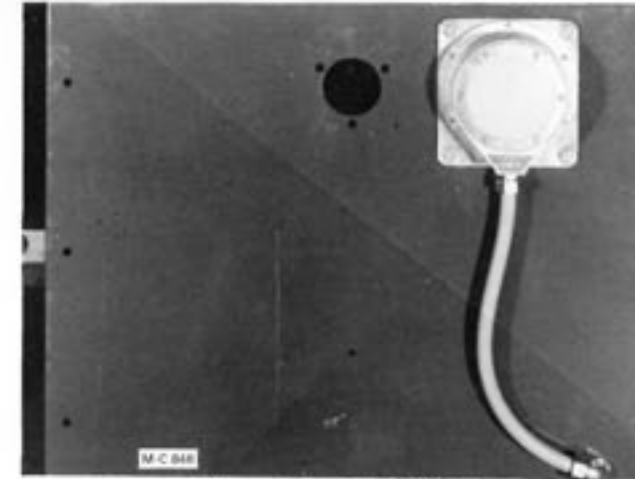
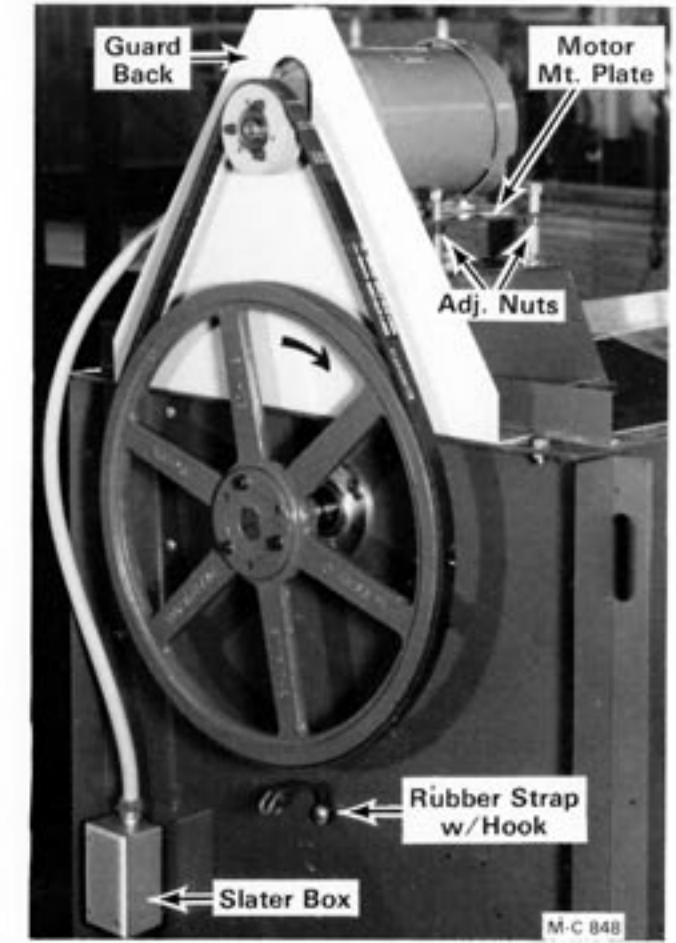

Figure 2 - Bin Switch
Figure 3
1. Install the bin level indicator (with flexible conduit) to the inside of the hopper front end panel with  $\frac{1}{4}$ -20 x  $\frac{1}{2}$ " truss head screws and two-way locknuts, see Figure 2. Secure the 90° fitting with nut provided and thread the Slater junction box (Figure 3) onto the 90° fitting.
2. Put four  $\frac{1}{2}$ -13 x  $3\frac{1}{2}$ " full thread capscrews in the level auger motor mount and lock in place with flanged locknuts. Thread a  $\frac{1}{2}$ -13 hex nut onto each capscrew and install the motor mount plate with motor, see Figure 3.
3. Install the level auger guard back as shown in Figure 3. Install a  $\frac{1}{4}$ " x  $1\frac{1}{2}$ " key in the level
11. Install the rubber strap with hook to the front end panel as shown in Figure 3. Hook the level auger guard over the top of the guard back and secure with rubber strap and hook.
1. Connect the flexible conduit to the bottom of the Slater junction box on the hopper front end panel, see Figure 3.